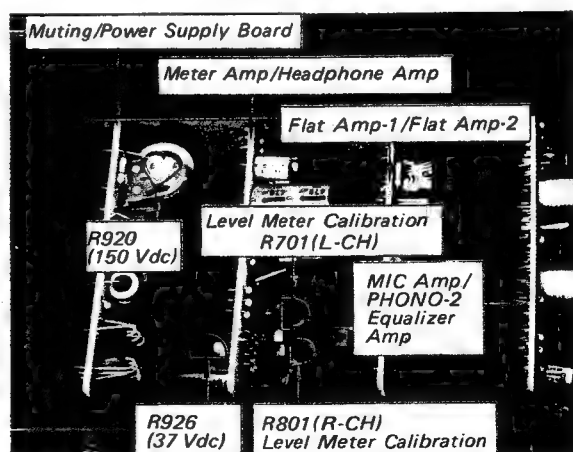

Fig. 3-3. Parts location
2. Turn the semifixed resistor R701 (R801), see Fig. 3-3, mounted on the Meter Amplifier/Headphone Amplifier board to obtain a 0 reading on the level meter.